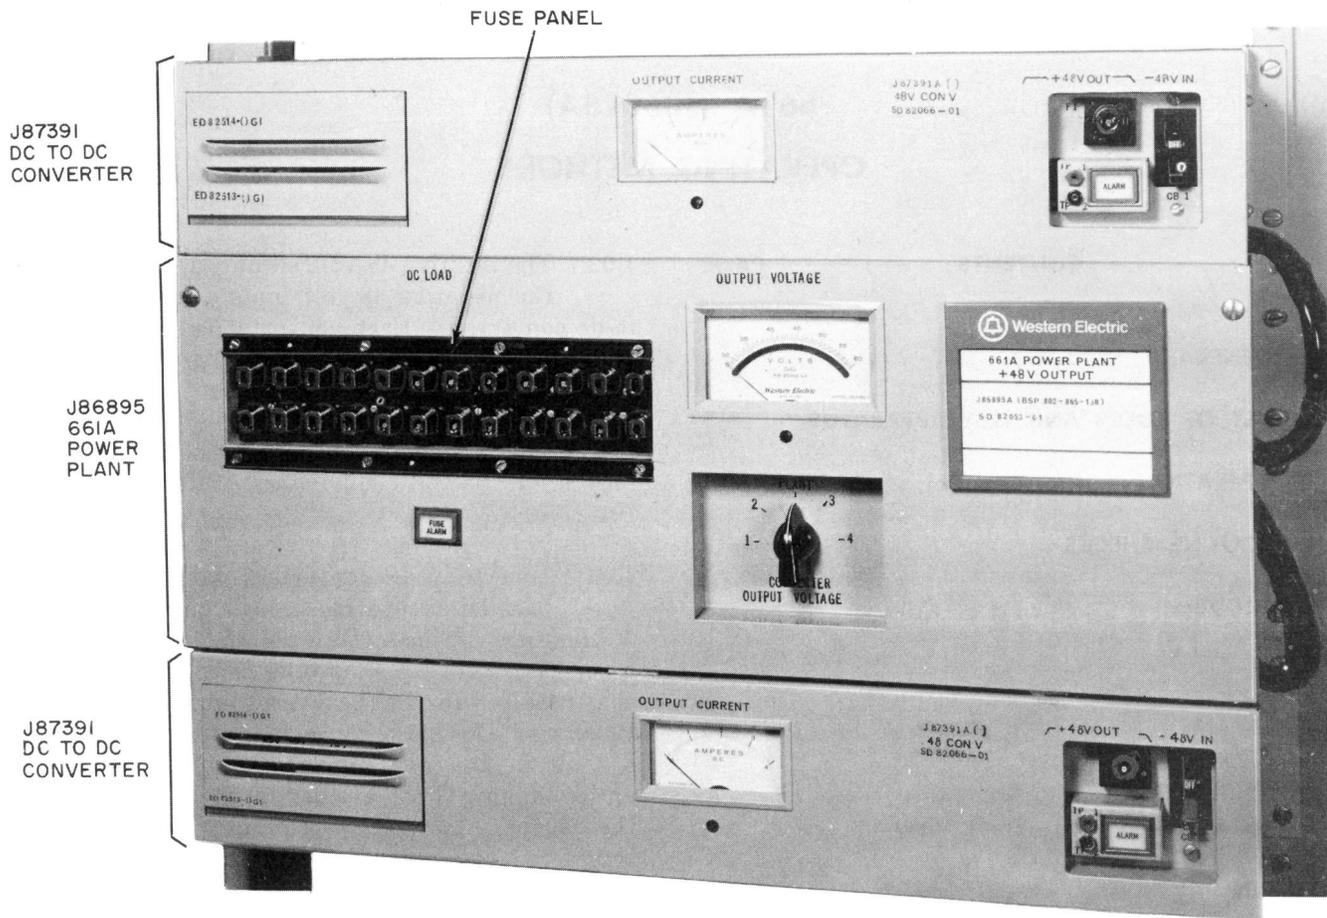

Fig. 1—661A Power Plant-Front View
1.01 The 661A power plant uses dc-to-dc regulated converters which supply a +48 volt, 6-ampere output from a -48 volt input for Miniaturized Dial Long Lines and the Dial Tone First Coin Line application. See Fig. 1.